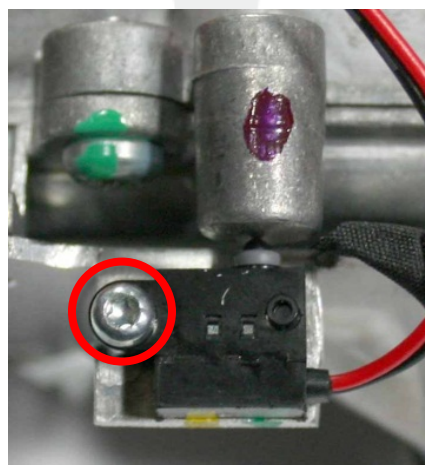

Figure 5
5. Remove and discard the screw that secures the HVIL switch to the bracket (Figure 5).